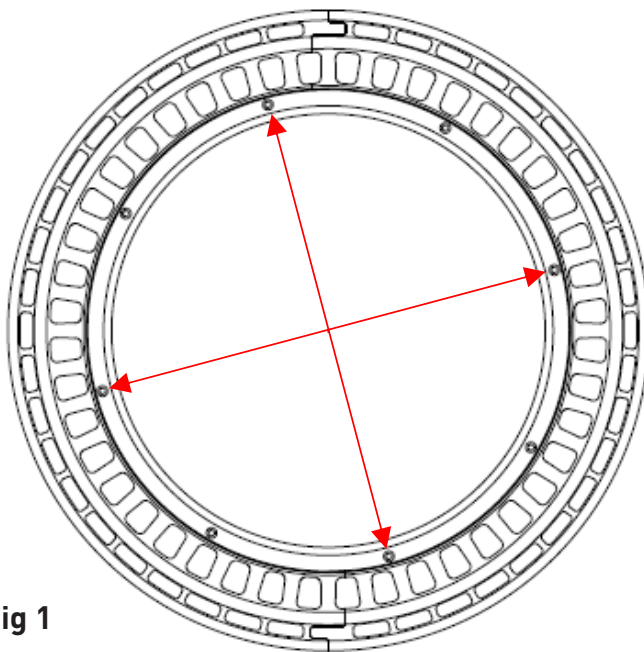

Fig 1
- Remove the 4 screws as indicated in Fig 1